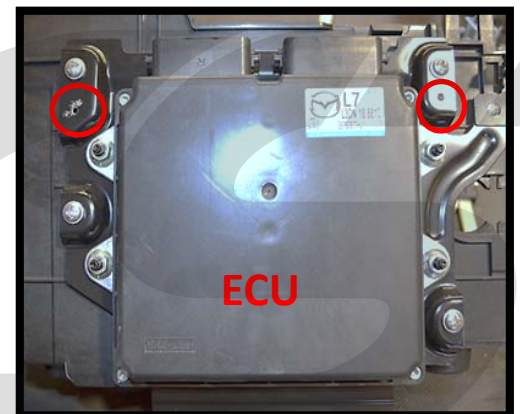

Figure 5f
- f) Remove the plastic cover that houses the ECU. Unscrew the two Phillips head screws (red circles indicate screw locations) and pull the cover upward (exposed ECU shown in Figure 5f).